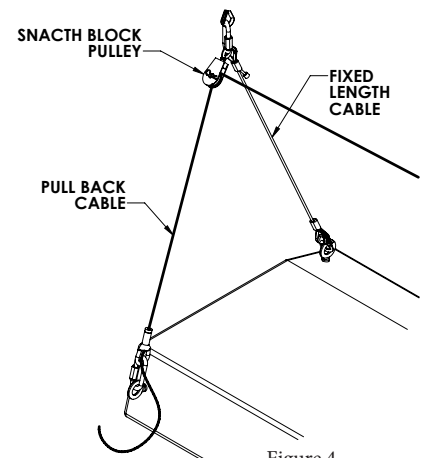

Figure 4
Capture one of the end loop of the RIGHT front fixed length cable and the eye of the Pulley from the pull back cable with supplied quicklink (Figure 4).
**Step 5:** Capture one of the end loop of the LEFT front fixed length cable and the eye of the pulley from the pull back cable with supplied quicklink (Figure 4)